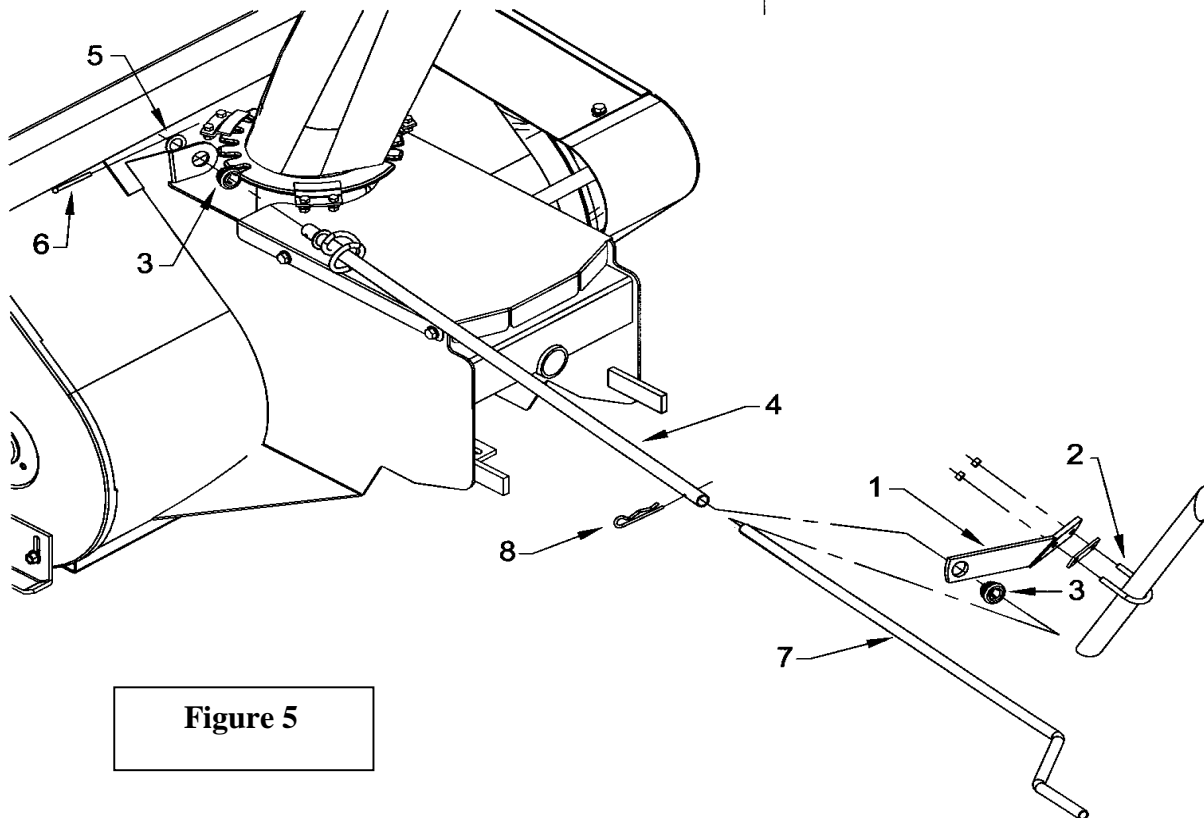

Figure 5
Step 5: Rotation Handle Installation (Figure 5)
1. On the left side handlebar of the DR[®] ALL-TERRAIN™ MOWER, install the rotation handle support (item 1) at approximately 28" from the ground, using the U-bolt (item 2), plate and nuts.
2. Insert the plastic bushing (item 3, flange facing the operator) on the housing by pushing forward until it snaps.
3. Insert the worm shaft (item 4) in the plastic bushing.
4. Place the flat washer (item 5) and lock the shaft in place with the cotter pin (item 6).
5. Insert the plastic bushing (item 3, flange facing the operator) into the rotation handle support (item 1).
6. Insert the rotation handle (item 7) through the support then in the worm shaft (item 4). Secure with the hairpin (item 8).
2. Refer to Figure 5, Page 13. Remove hairpin (item 8) and rotation handle (item 7).